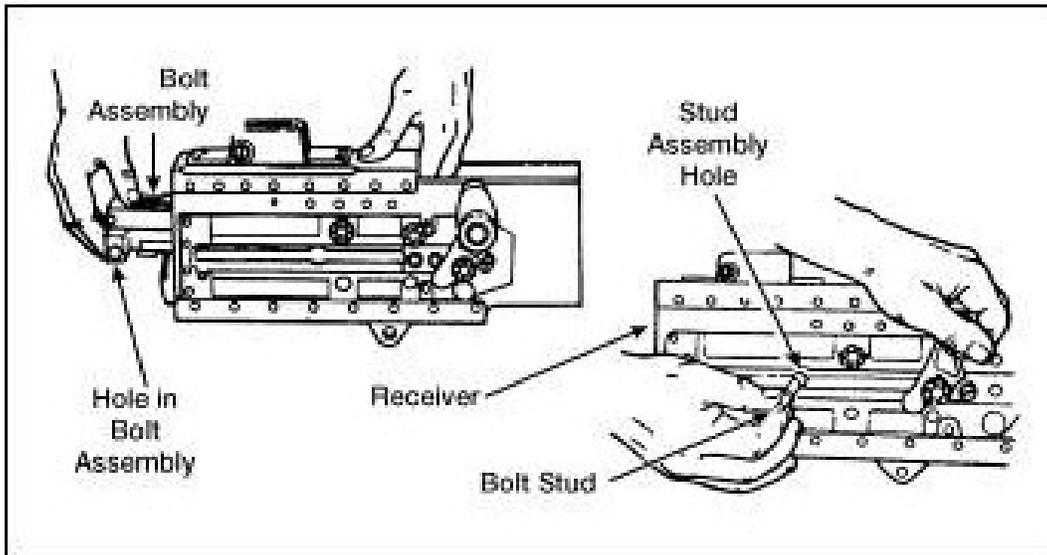

Figure 551-8ST-1025_40 (Installation of the bolt assembly)
f. Assemble the driving spring rod assembly (Figure 551-8ST-1025_41).
(1) Install the driving spring rod assembly in the upper right corner of the bolt.
(2) Push forward and to the right until the driving spring rod assembly engages in the hole in the side plate of the receiver-not in the groove for the backplate.